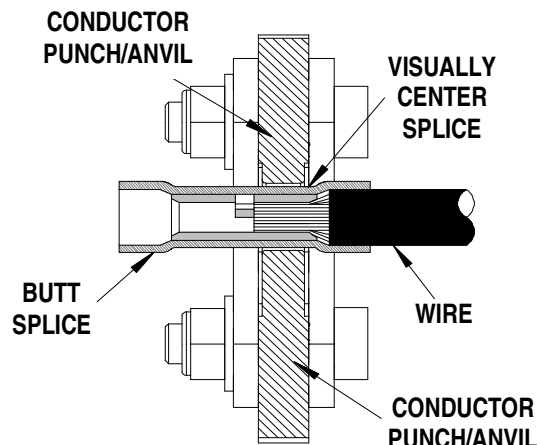

Figure 3
5. When crimping butt splices, insert the wire into the butt splice. Position the splice and the wire in proper nest with conductor crimp on the conductor barrel of the splice. The splice should be approximately centered inside the tooling nests. See Figure 3. Cycle the tool.